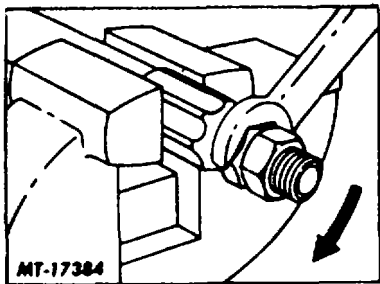

Fig. 5
8. Position hose socket in swivel nut and reassemble pipe adapter (if removed) to lock swivel nut on the fitting. Thread the fitting and swivel nut (with pipe adapter) assembly into the hose as shown in Fig. 5 leaving .793-1.59 mm (1/32 Inch to 1/16 inch) clearance between nut and socket so that the nut can swivel freely.